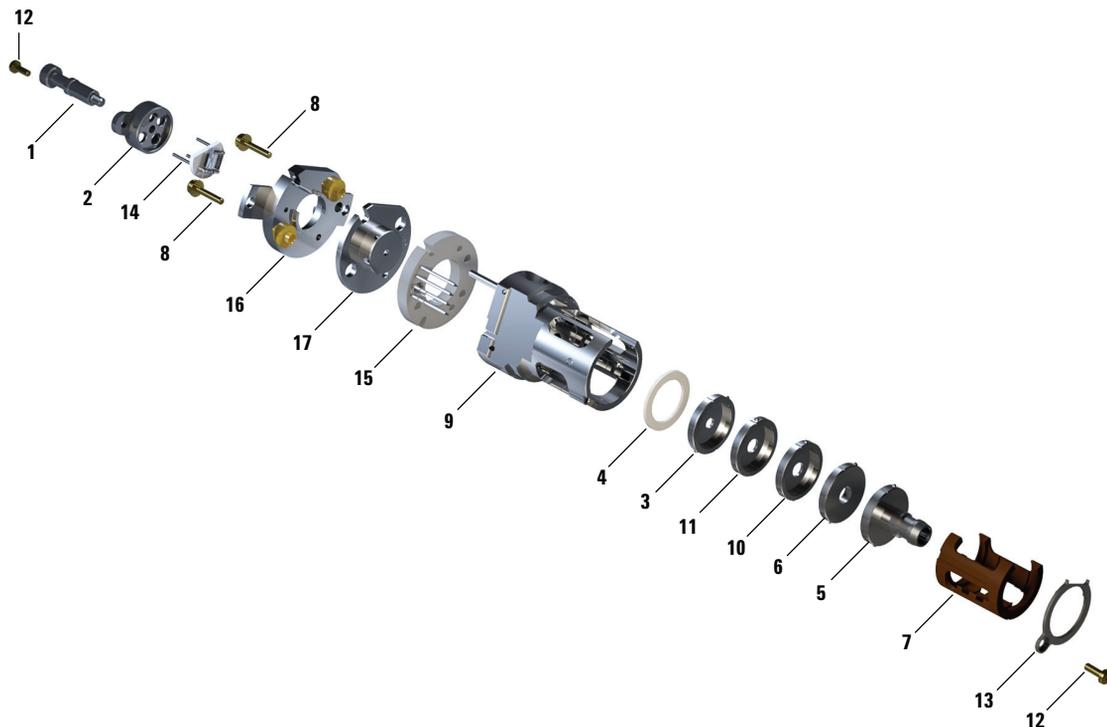

Figure 51 Exploded parts view of the EI HES
Refer to the exploded parts view Figure 51 and the EI HES parts list Table 19 on page 152 while using this procedure.
Table 19 Parts list for EI HES (Figure 51)
**Table 19** Parts list for EI HES (Figure 51) (continued)